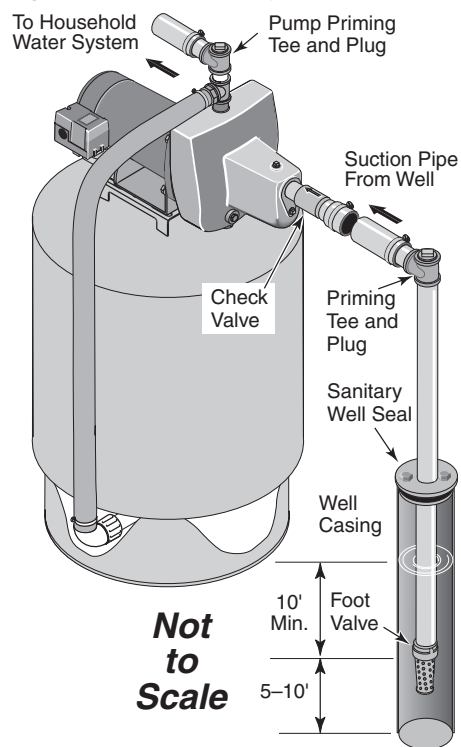

Figure 2: Cased Well Installation
CASED WELL INSTALLATION, 2" OR LARGER CASING (FIGURE 2)
2. Assemble the foot valve, strainer, and well pipe (see Figure 2). Make sure that the foot valve works freely.
4. Install a priming tee, priming plug, and suction pipe to the pump (see Figure 2). Connect the pipe from the well to the pump suction port, using the fewest possible fittings – especially elbows – as fittings increase friction in the pipe (however, include a foot valve – see Figure 2). The suction pipe should be at least as large as the suction port on the pump. Use PTFE pipe thread sealant tape on threaded pipe joints. Support the pipe so that there are no dips or sags in the pipe, so it doesn't strain the pump body, and so that it slopes slightly upward from the well to the pump (high spots can cause air pockets which can air lock the pump). Seal the suction pipe joints with PTFE pipe thread sealant tape. Joints must be air- and water-tight. *If the suction pipe can suck air, the pump cannot pull water from the well.*